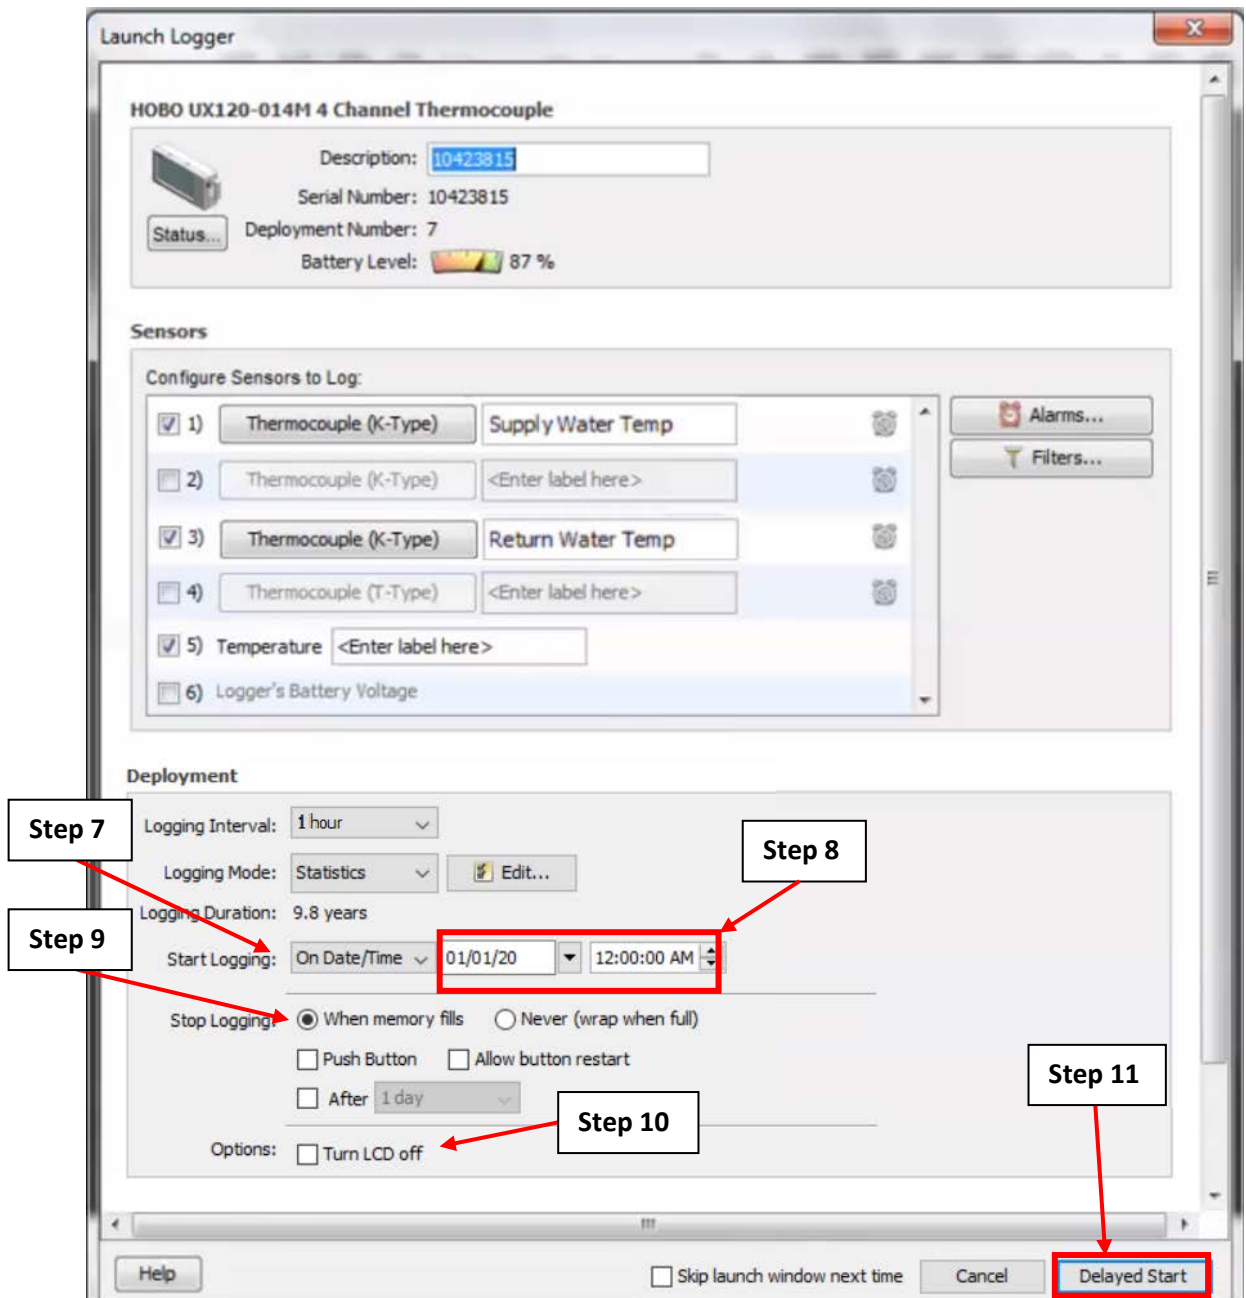

Figure A.12.8: The "Launch Logger" window with the deployment steps.
7. Back on the “Launch Logger” screen (Figure A.12.8), go to the “Deployment” table. Click on the “Start Logging” dropdown menu. Select “On Date/Time” to specify the date and time that the logger will begin to collect measurements.